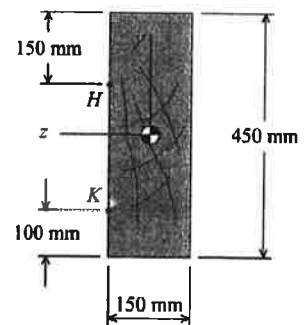

Figure 4(b)
- (a). **Draw** the shear force and bending moment diagrams for the beam shown in **Figure 4(a)**.